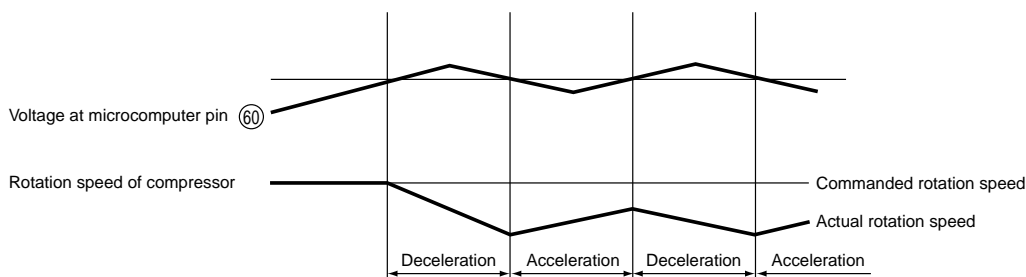

Fig. 8-7
- Fig. 8-7 shows the rotation speed control. When the voltage at pin ⑩ of the microcomputer exceeds the set value, the microcomputer decreases the rotation speed of the compressor and reduces the load regardless of the rotation speed commanded by the indoor microcomputer.